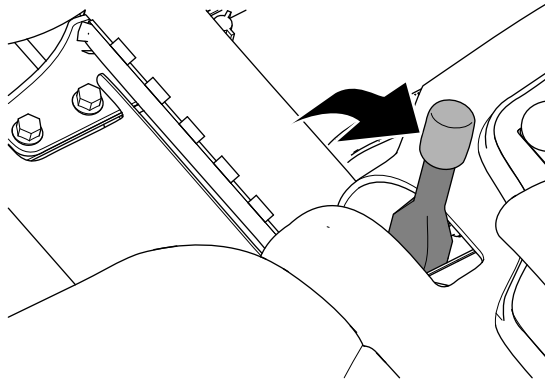

Figure 32
2. Engage the parking brake (Figure 32).